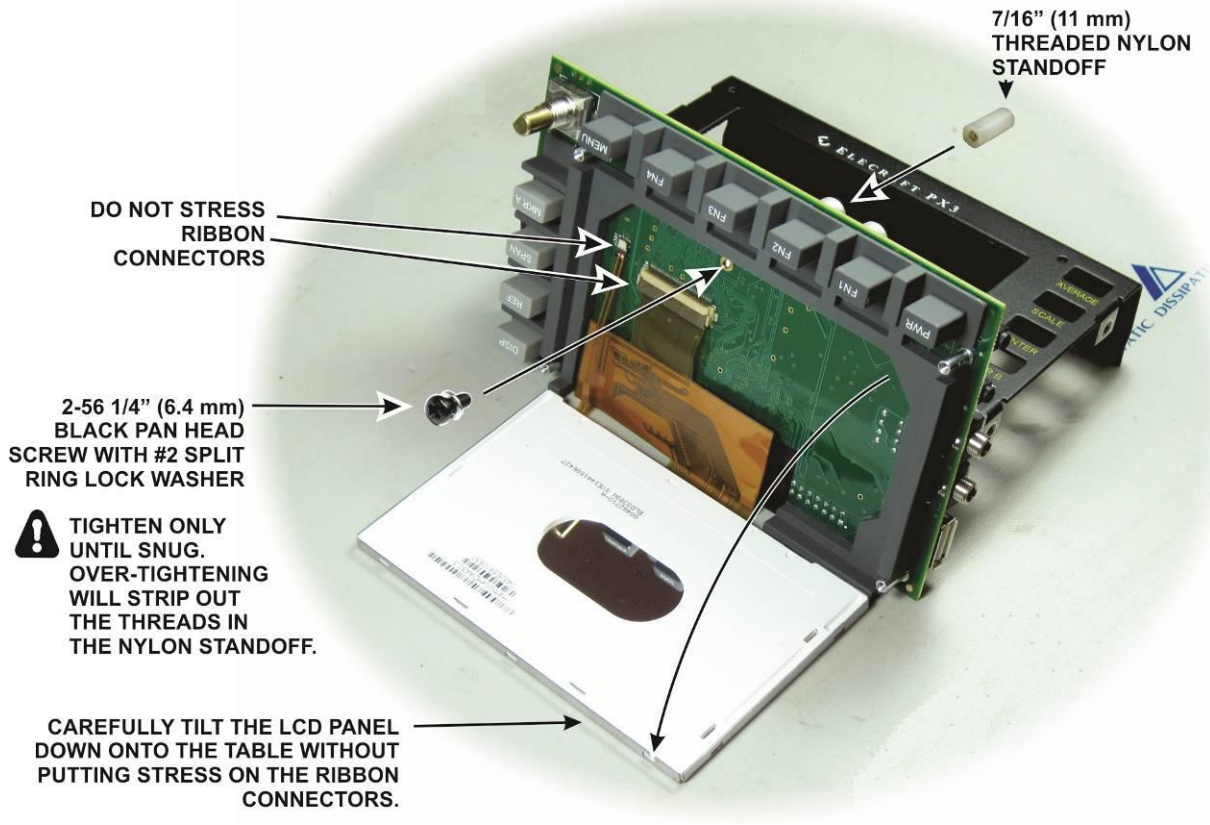
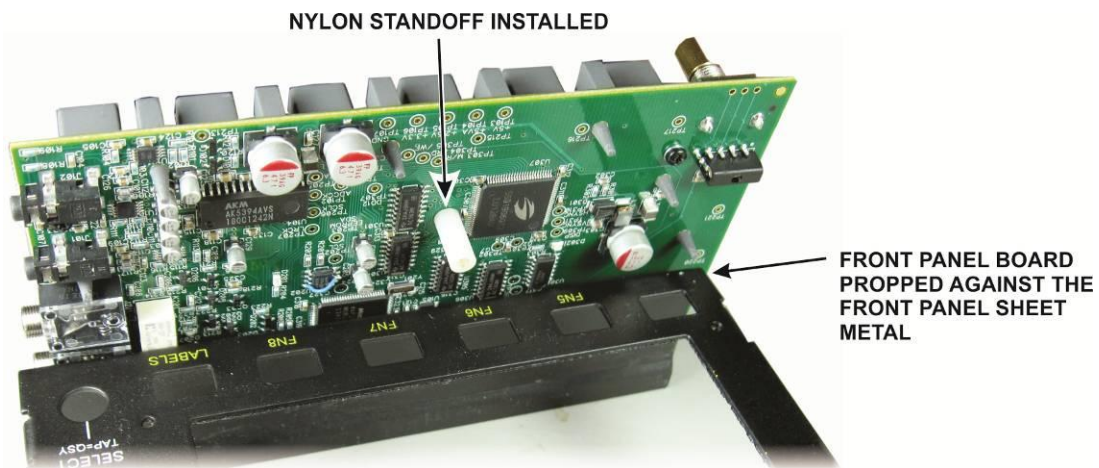

Figure 29. Installing the Nylon Standoff on the Front Panel PC Board.
Figure 30. Nylon Standoff Installed.
☐ Locate the front panel. On the inside are four small pieces of conductive tape covering screw holes at each corner of the large opening for the LCD (see Figure 29). **Do not remove this tape!** It provides an essential ground for the LCD when the front panel board is mounted. Use a sharp knife point or other tool to open the tape over each screw hole Work from the inside so you do not push the tape away from the panel. This is needed to mount the front panel board later, but first you will need to prepare the front panel board for installation in the next few steps.
□ Place the front panel face up on your work table. Carefully remove the rubber band holding the LCD in place and prop the front panel board up on its **top** edge against your work table. Install the threaded nylon standoff on the board as shown in Figure 29. Tighten only until the standoff is snug. Do not over-tighten or you will strip the threads in the standoff. The installed standoff is shown Figure 30, If one of the ribbon cables does come loose, see *Replacing the LCD* on page 64.